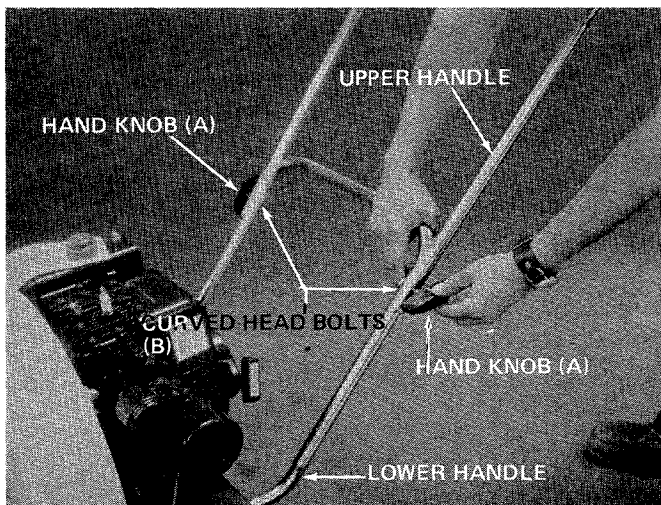

FIGURE 4
- Place the upper handle over the lower handle, lining up the holes. Secure with curved head bolts (B) and hand knobs (A). See figure 4.